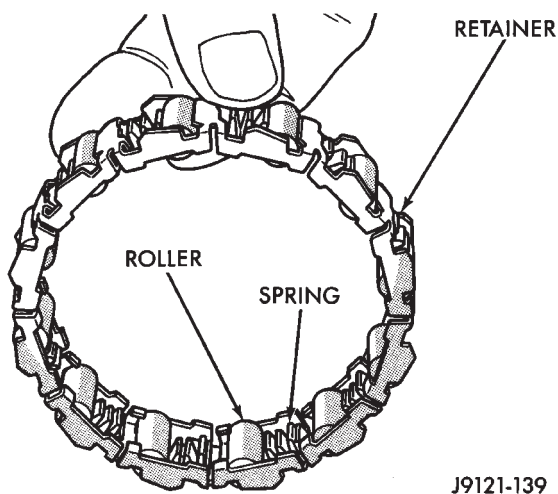

Fig. 31 Overrunning Clutch Rollers, Springs, Retainer
(1) Assemble clutch rollers and springs in retainer if necessary (Fig. 31).